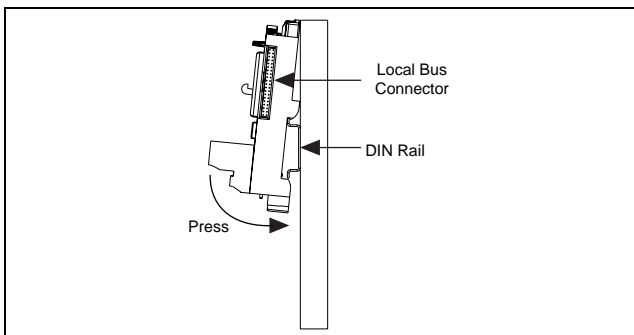

Figure 2. Installing the Terminal Base onto a DIN Rail
2. Hook the lip on the rear of the terminal base onto the top of a 35 mm DIN rail and rotate the terminal base down onto the DIN rail as shown in Figure 2.